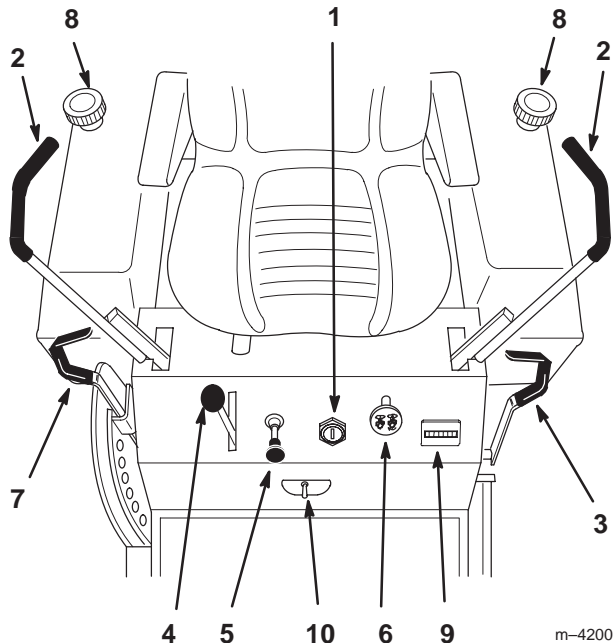

Figure 7
Become familiar with all the controls (Fig. 7) before you start the engine and operate the machine.
1. Move the motion control levers (Fig. 7) out to the neutral lock position.